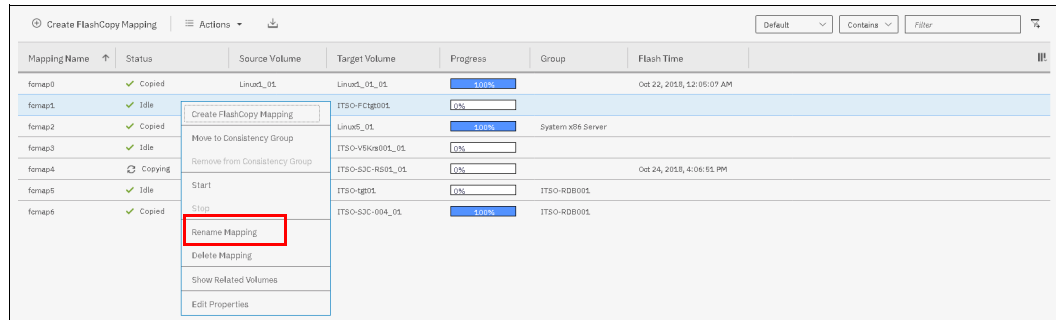

Figure 10-50 Rename Mapping action
2. Select the FlashCopy mapping that you want to rename, right-click **Rename Mapping**, as shown in Figure 10-50.